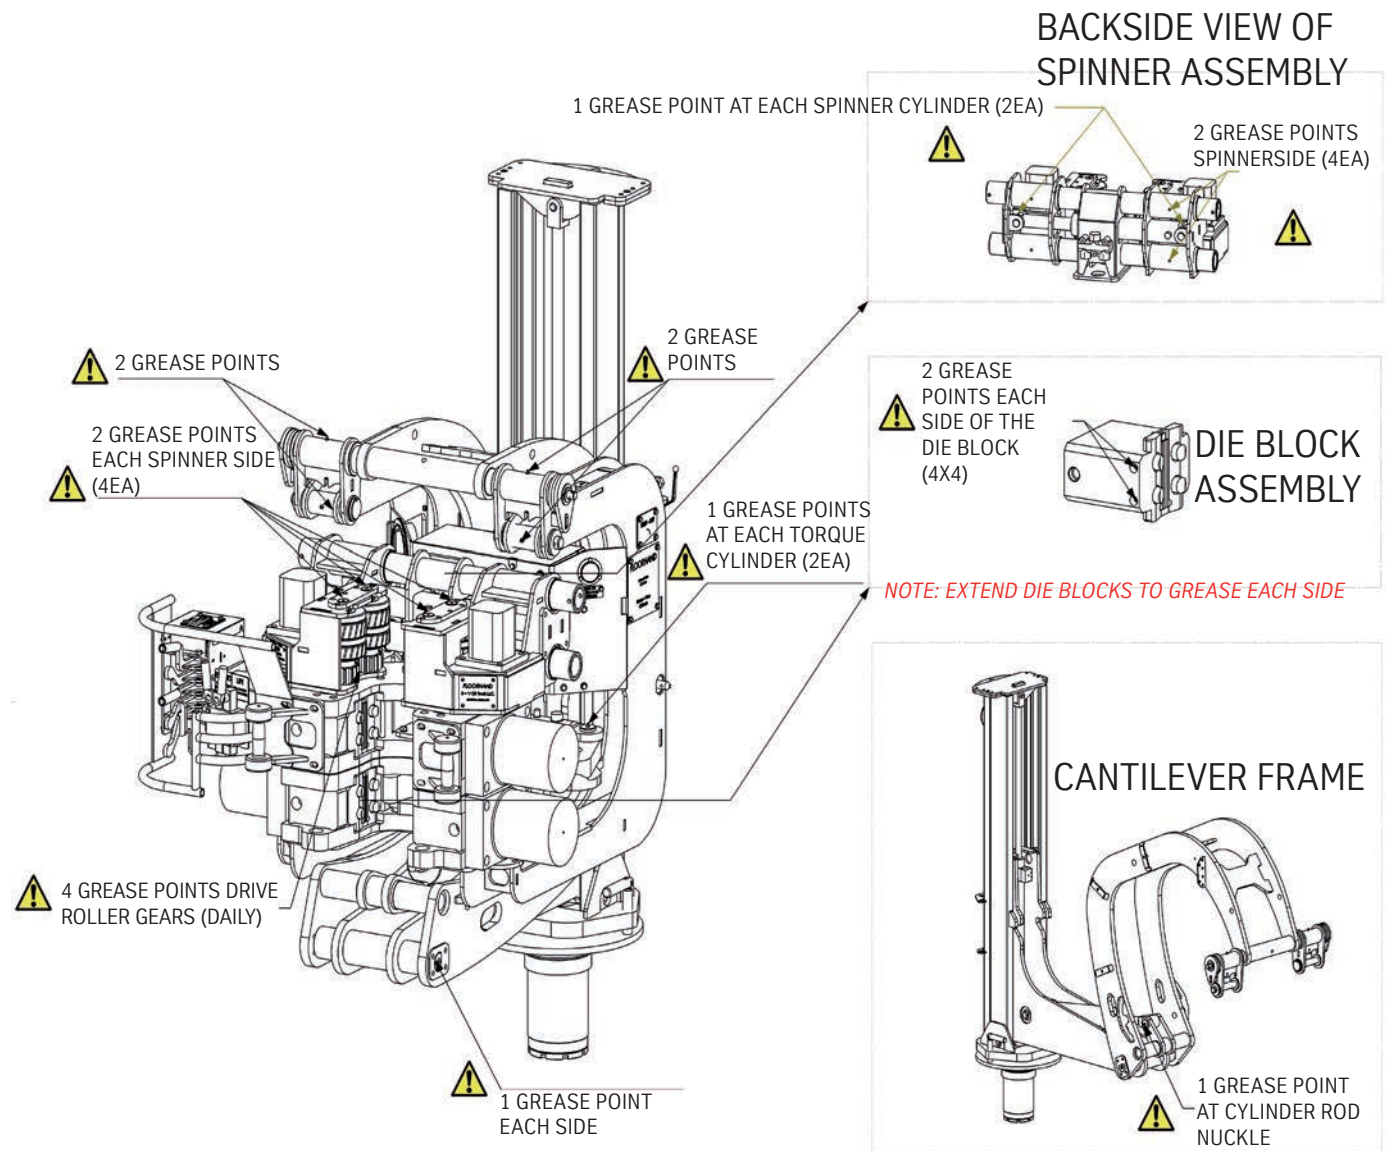

Figure 57
The FloorHand should be inspected and greased each week. For higher ambient temperature up to 86° Fahrenheit (30° Celsius) we recommend to use NLGI grade 2. (See Figure 57).
- **TOGGLE BEARINGS** - Use a grease gun on the grease fittings on the cross tubes of each Frame Toggle. 4 grease points. (See Figure 57)
- **TORQUE ARM PIN** - Use a grease gun on the grease fitting on each end of the Torque Arm Pin (2 grease points) (See Figure 57).